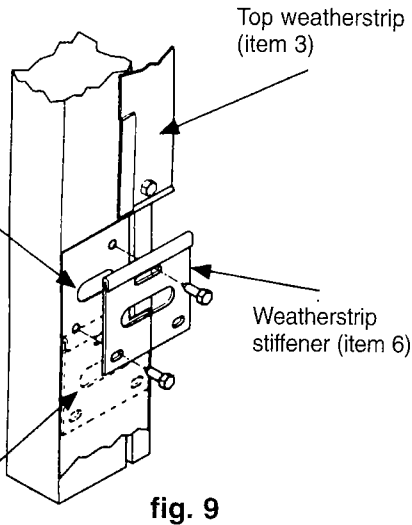

fig. 9
Using the weatherstrip stiffener (item 6) determine the position of the stiffener and drill holes 3mm diameter through corresponding holes in the weatherstrip (item 5) into the timber frame. Secure using screws (item 17). See fig. 9.